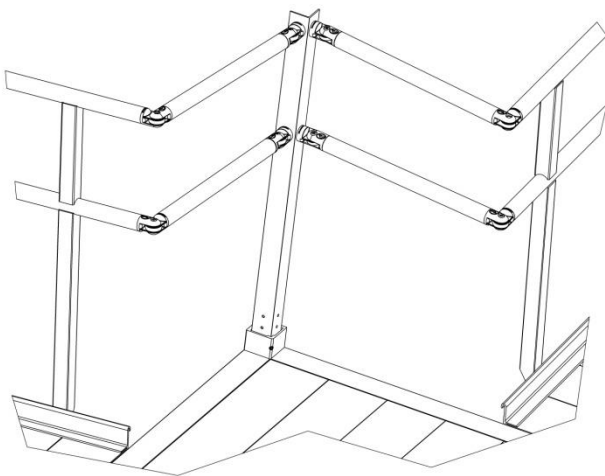

FIG. 6.5
- 6.1.10. For platforms over 5' wide, use two MHRPRC (CONNECTOR – PLATFORM HR TO RAMP HR) to connect ramp handrails instead of the MHRRC (FIG. 6.5).